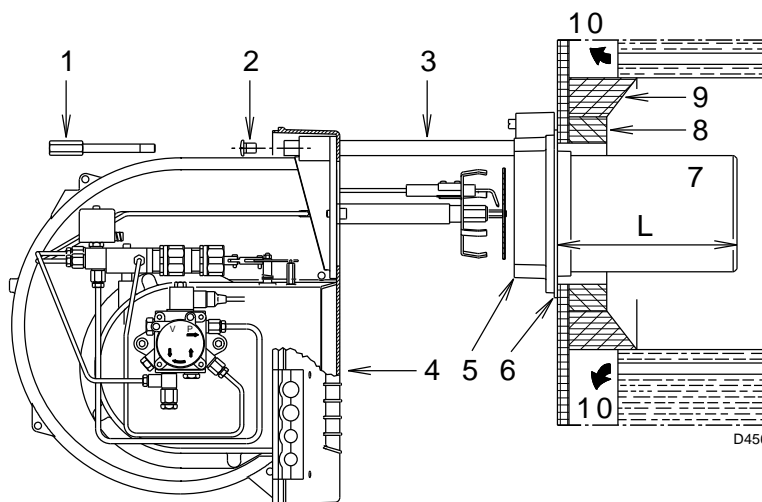

Fig. 9
Blast tube 7)(Fig. 9):
For boilers with front flue passes 10)(Fig. 9) or flame inversion chambers, protective fettling in refractory material 8) must be inserted between the boiler's fettling 9) and the blast tube 7).
For boilers having a water-cooled front the refractory fettling 8)-9)(Fig. 9) is not required unless it is expressly requested by the boiler manufacturer.
Disassemble the blast tube 7)(Fig. 9) from the burner 4)(Fig. 9) by proceeding as follows:
Once this operation has been carried out (if it was required), secure flange 5)(Fig. 9) to the boiler plate interposing the supplied gasket 6).
- retract the burner on its slide bars as shown in Fig. 9.
At this point of the installation, nozzle and pipe coupling are fixed to the boiler as in (Fig. 9 on page 15).